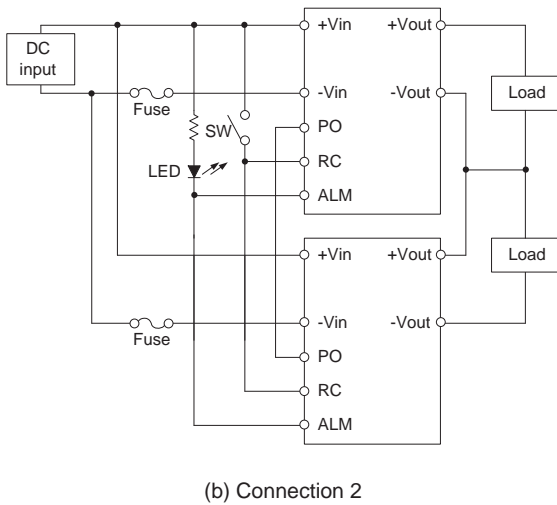

Fig.5.1 Examples of series operation
- In series operation, connect each PO and ALM pin mutually, wiring as Fig.5.1.